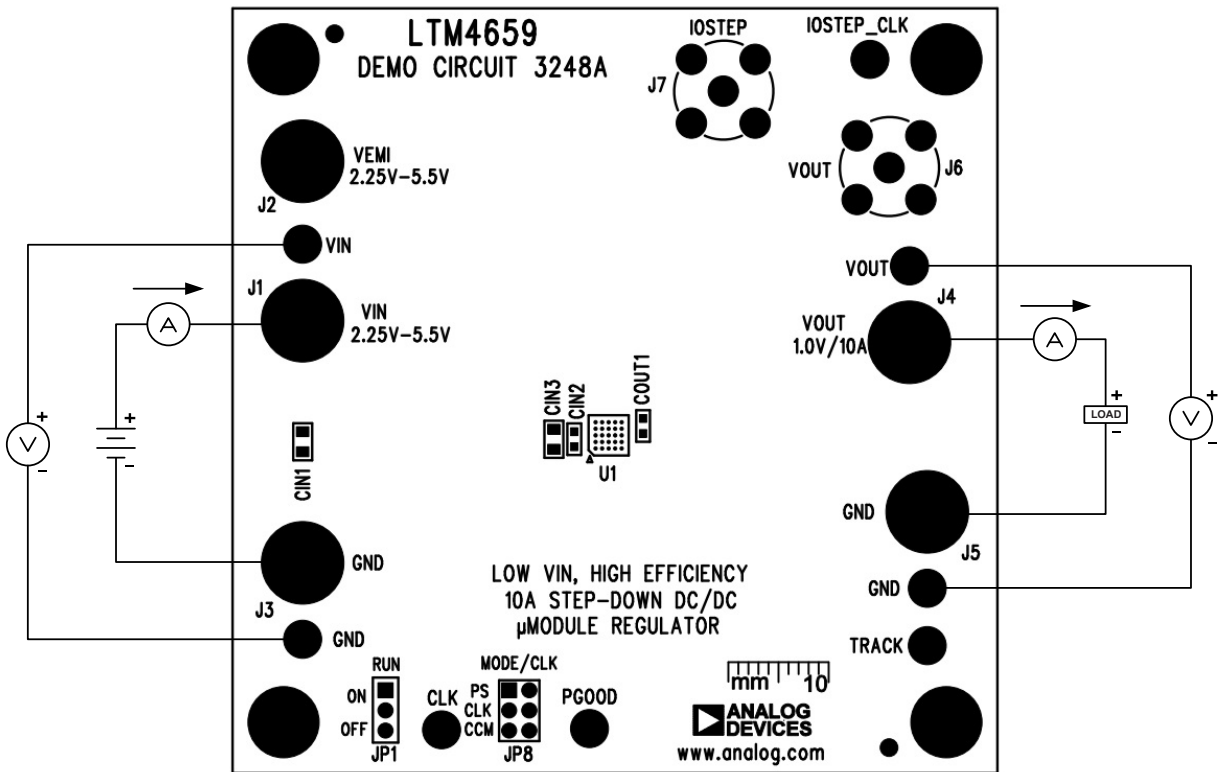

Figure 2. Measurement Setup of DC3248A
The DC3248A evaluation board is an easy way to evaluate the performance of the LTM4659. See Figure 2 for proper measurement equipment setup and follow the procedure below.
2. With the power off, connect the input power supply, load and meters as shown in Figure 2. Preset the load to 0A and V_{IN} supply to 3.3V.